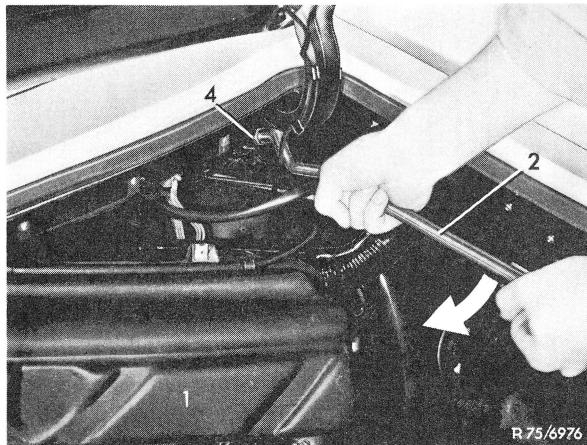
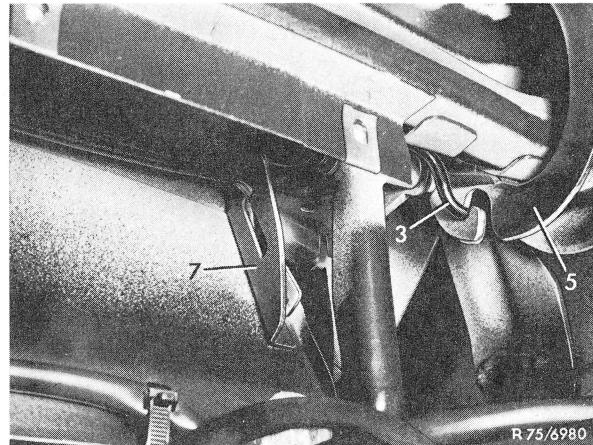
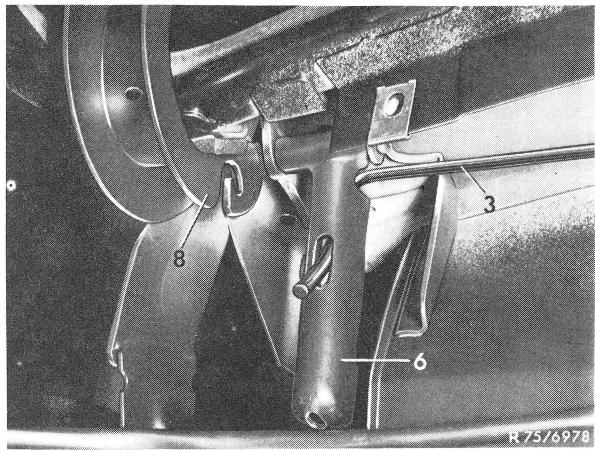

Figure 1
Figure 2
Figure 4
- 2 Loosen compensating tank (1). (Two sheet metal screws in top well.)
- 4 Position mounting lever (2) above torsion bar spring and tighten screw (4) well.
- 6 Turn mounting lever downwards (refer to arrow in Fig. 1) and lift torsion bar spring with both hands out of hinge lever (5) (Fig. 2).
9 Remove torsion bar spring (3) at left from hinge lever for top well lid (6) (Fig. 4).
11 Remove torsion bar spring from holder (7) (Fig. 2).
12 For installation proceed vice versa. Make sure that the shorter torsion bar 6 mm thick is attached first to mounting (7) and then to trunk lid hinge (8) (Fig. 2 and 4). Tension spring by approx. 1/2 turn for connection to trunk lid hinge.
Attach second, longer torsion bar 5.5 mm thick first to hinge lever for top well lid (6) (Fig. 4). Tension spring by 1/2 turn and attach to trunk lid hinge (5) (Fig. 2).